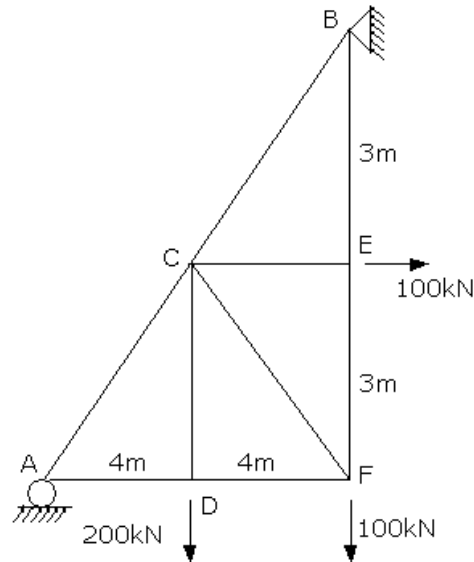

Figure 5
5. Find all the forces in the members of the truss as shown in the Figure 5 a below.